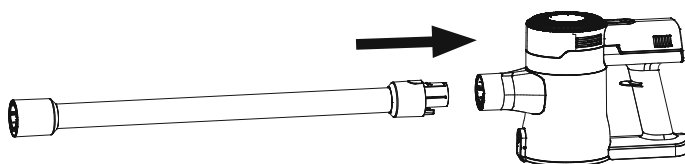

Fig. 1
1. Insert the extension tube (15) into the suction opening (1). Make sure that it is firmly attached and audibly clicks into place (see Fig. 1).